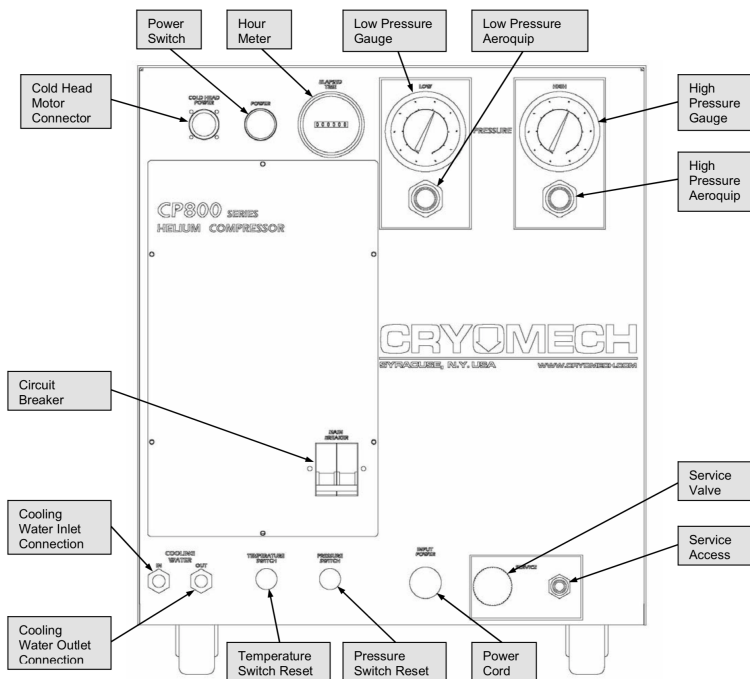

Fig. 2.10: The front panel of the FastCCD chiller located in the SCS hutch.
- make sure that the power is connected and the interlock allows the chiller operation. If this is the case, the red LED on the chiller's front panel (under interlock connector) is on (see Fig. 2.10 and Fig. 2.11).